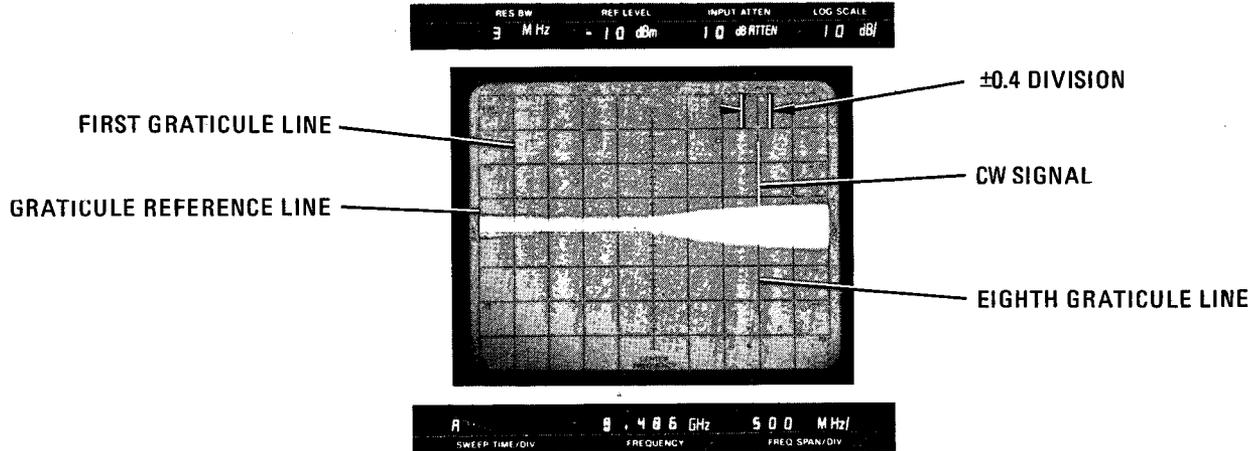

Figure 4-3. Span Width Accuracy Measurement, 500 MHz and 200 MHz per Division
- f. Measure error between signal peak and eighth graticule line. Error should not exceed ± 0.4 division. (See Figure 4-3.)
- j. Measure error between signal peak and eighth graticule line. Error should not exceed ± 0.4 division. (See Figure 4-3.)